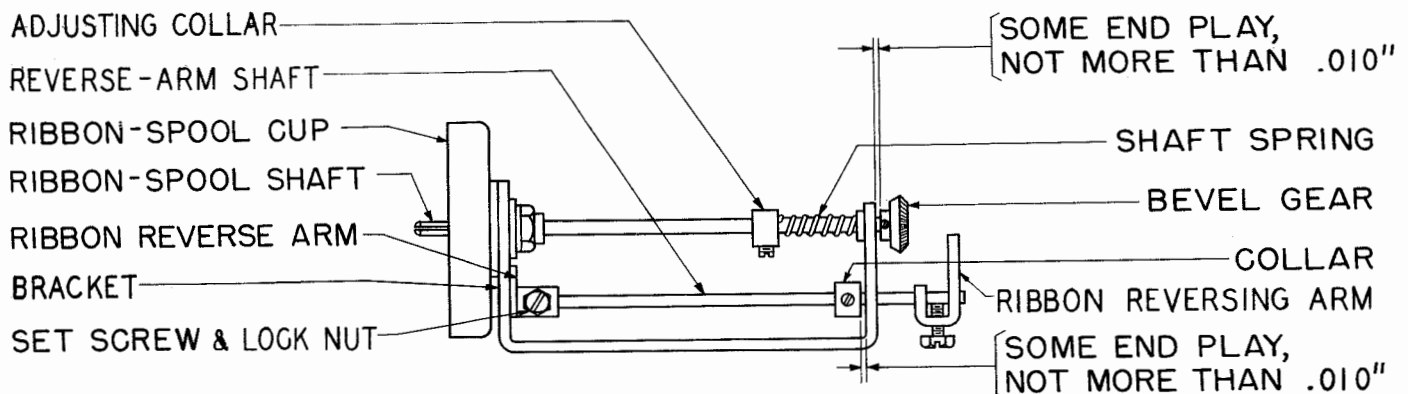

Figure 15
(b) On units equipped with a ribbon-reverse-arm yield-spring, the left ribbon-reverse-arm shaft shall be set flush with the front of the ribbon-spool bracket. The right ribbon-reverse arm shall be positioned as specified in (a). See Figures 15 and 17.
2.27 Ribbon-reverse-pawl Links shall not bind on their shoulder screws. See Figures 15 and 19.